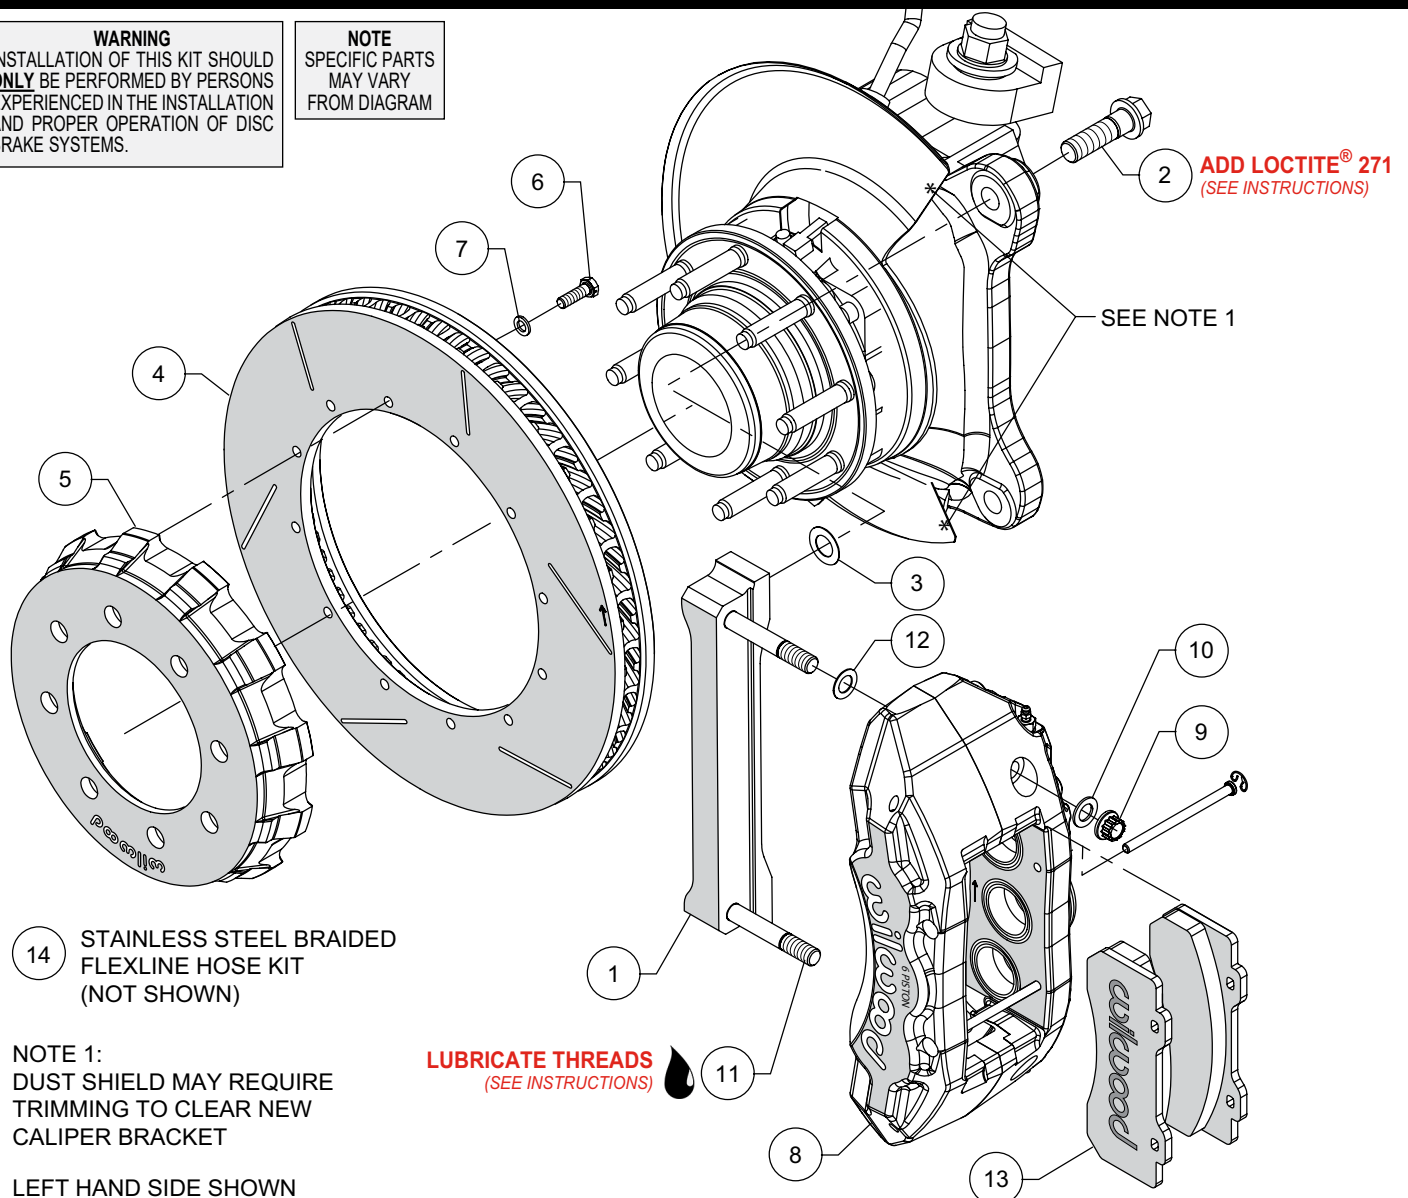
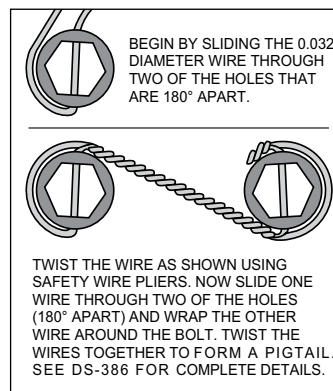

Figure 1. Typical Installation Configuration
Figure 3. Safety Wire Diagram
Numbers in parenthesis refer to the parts list and Figure 1 on the preceding pages.
•The caliper mount bracket (1) should initially be installed with clean, dry threads on the mounting bolts. Orient the bracket as shown in Figure 1 and Photo 1, and install using bolts (2). Initially place one .024 thick shim (3) on each bolt between the bracket and upright, Figure 1. Temporarily tighten the mounting bolts. **NOTE:** The bracket must fit squarely against the mount bosses on the upright. Inspect for interference from casting irregularities, machining ridges, burrs, etc. as well as the dust shield which may need to be trimmed just a little. Later, after the caliper alignment has been checked, the mount bolts (2) will be torqued to specification using red *Loctite*® 271.
•Orient the rotor (4) and the hat (5) as shown in Figure 1 and Photo 2. Attach rotor to hat using bolts (6) and washers (7). Using an alternating sequence, torque to 25 ft-lbs. For an added measure of security, the bolts may be safety wired using standard 0.032 inch diameter stainless steel safety wire as shown in Figure 3. Please refer to Wilwood's data sheet DS-386 (available at [www.wilwood.com/Pdf/DataSheets/ds386.pdf](http://www.wilwood.com/Pdf/DataSheets/ds386.pdf)) for complete safety wire installation instructions.
•**NOTE:** This kit contains distinct right and left hand calipers that must be mounted in a specific direction, as described below. Lubricate the caliper mounting studs (11) with lightweight oil. Initially place one .032" thick shim (12) on each stud as shown in Figure 1 and Photo 3. Mount the caliper (8) onto the bracket (1) using lock nuts (9) and washers (10), Figure 1. Ensure that the caliper is mounted so that the largest pistons are at the rotor exit end of the caliper, in relation to the direction of rotor rotation. Temporarily tighten the lock nuts and view the rotor through the top opening of the caliper. The rotor should be centered in the caliper, Photo 4. If not, adjust by adding or subtracting shims (3) between the bracket and the upright. Always use the same amount of shims on each of the two mounting bolts. Once the caliper alignment is correct, apply red *Loctite*® 271 to threads and torque bolts (2) to 120 ft-lb.
•Remove the two pad retaining pins from the caliper by carefully popping out the pin retaining clips and sliding out the pins. Insert the brake pads (13) into the caliper, with the friction material facing the rotor, as shown in Photo 5 and secure the brake pads in place with the pad retaining pins and clips, Photo 6. Check that the top of the brake pad is flush with the outside diameter of the rotor, Photo 7. If not, adjust by adding or subtracting shims (12)